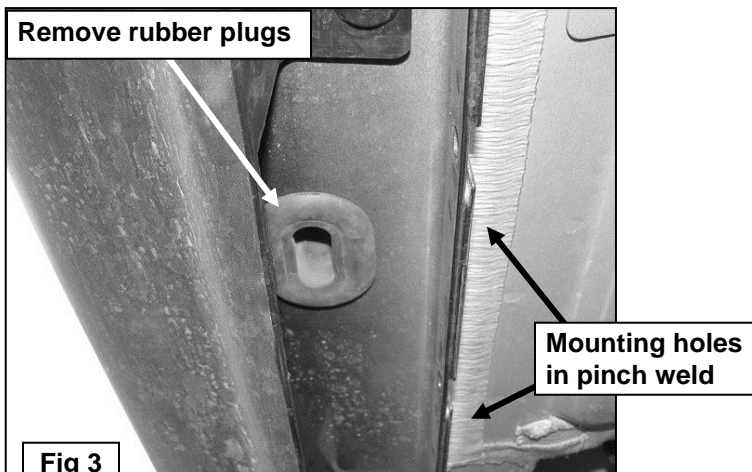

Fig 3
1. Starting at the driver side, locate the (3) pairs of factory holes in the pinch weld, **(Figure 1 & 2)**. Move toward the front pair. Remove the rubber plug filling the oval hole in the bottom of the rocker panel in front of the two holes, **(Figure 3)**. Select (1) 12mm Bolt Plate and (1) 12mm Plastic Retainer. Partially thread the Retainer onto the Bolt Plate. Insert the Bolt Plate into the hole and rotate it 90-degrees to go across the slot, **(Figure 4)**. Thread the Retainer all the way down the Bolt Plate and tight against the body panel, **(Figure 5)**. **NOTE:** The Plastic Retainer is designed to prevent the Bolt Plate from falling into the body cavity and to aid in installing the Bracket.